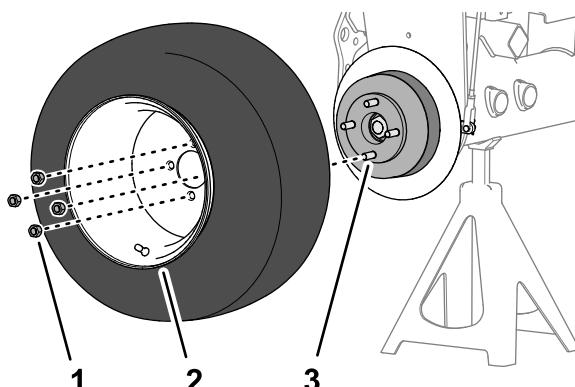

Figure 60
1. Remove the 4 lug nuts that secure the front wheel to the hub, and remove the wheel (Figure 60).